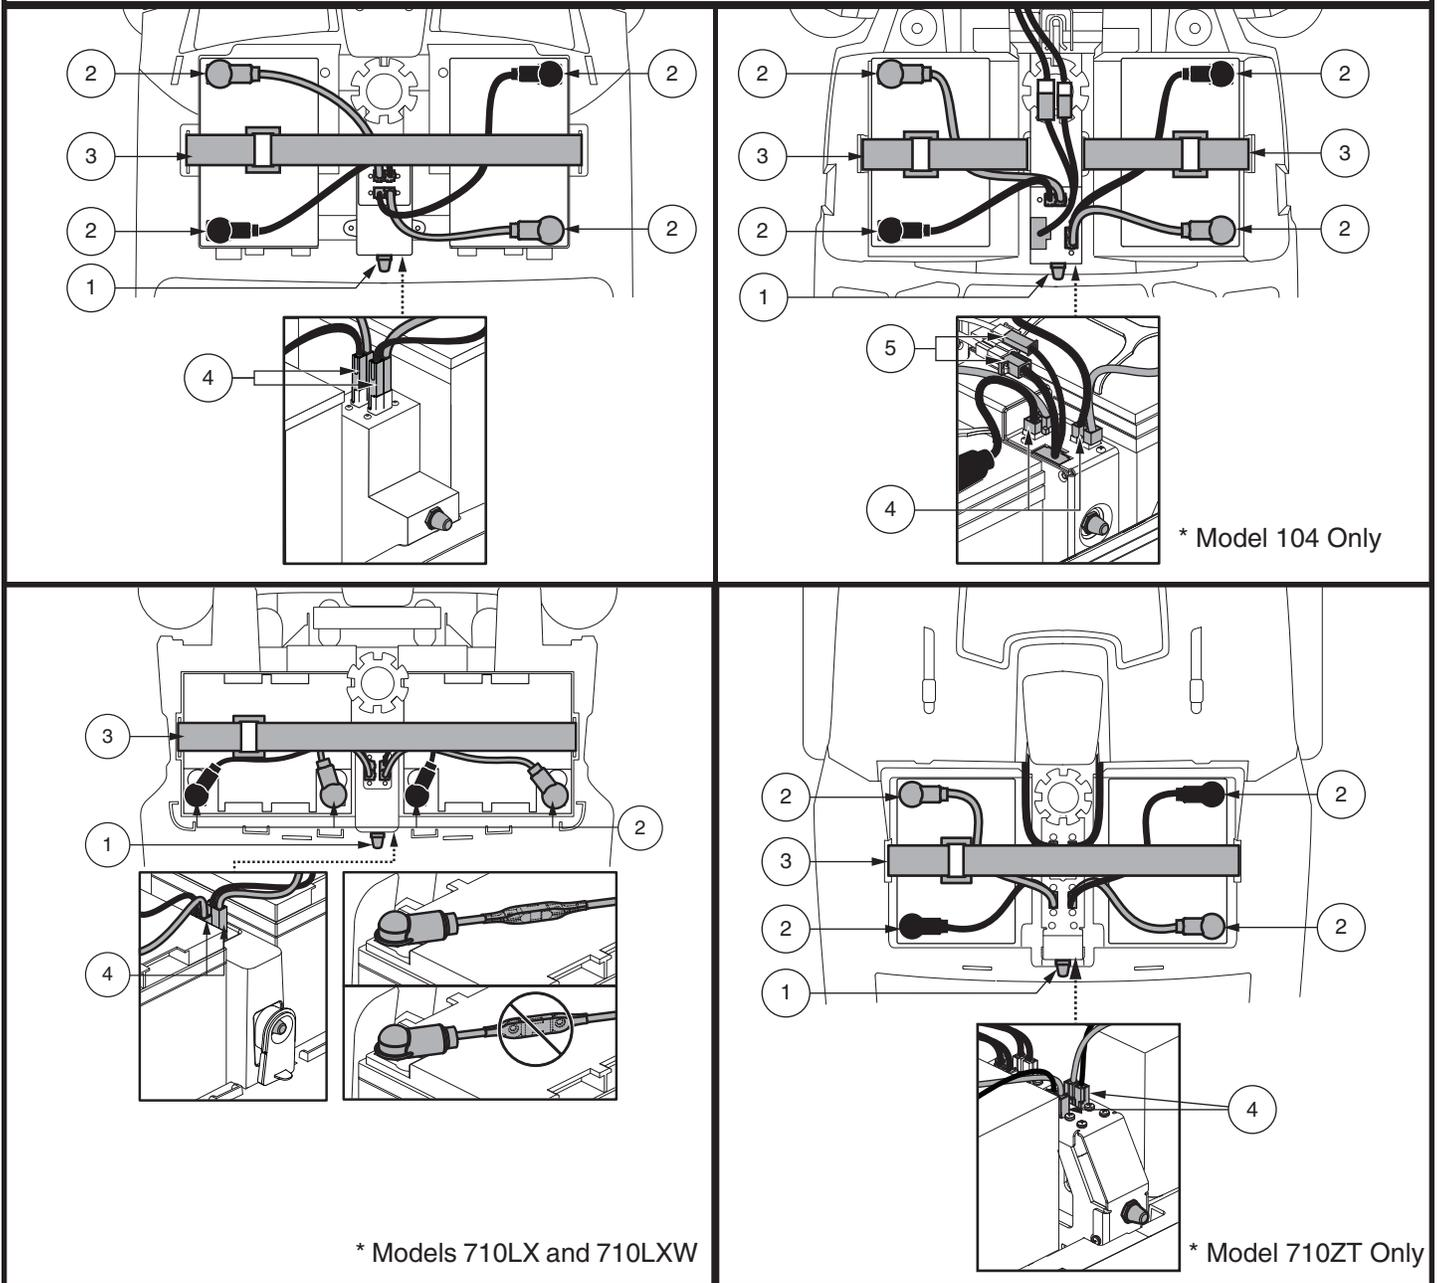

Figure 14. Battery Removal/Installation Terminals and Connections
2. Disconnect the battery tie-down strap. See figure 14.
3. Disconnect the battery harnesses by depressing the tabs on the battery harness connectors and pulling them straight up. See figure 14.
6. Place a new battery in each battery well. For 710LX and 710LXW models, face the battery terminals of each battery rearward. For all other models, face the battery terminals of each battery opposite each other and toward the outer sides of the scooter. See figure 14.